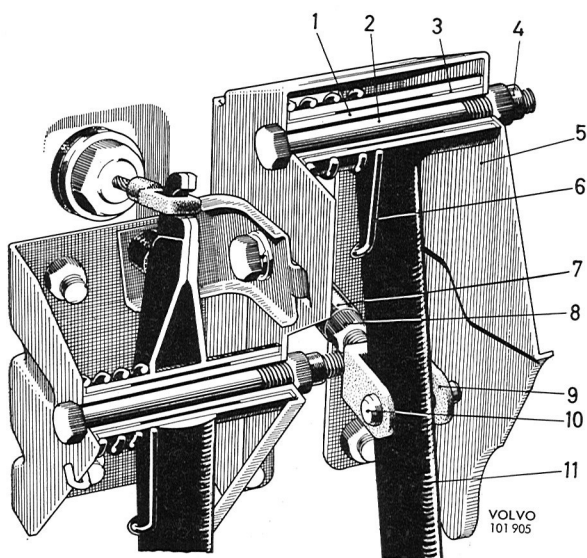

Fig. 5-67. Pedal suspension components
The position of the pedal is adjusted by loosening the locknut (8, Fig. 5-67) and removing the split pin bolt (10) and then turning the fork (9). Do not forget after adjusting to tighten the locknut and fit the split pin.
1. Remove the split pin bolt (10, Fig. 5-67). Prise off the return spring (6). Unscrew the nut (4) and pull out the screw (2). Lift the pedal (11) forwards.
2. Press out the bearing sleeve (1) and the bushes (3).
4. Press the new bushes (3) in position in the pedal and lubricate them with a thin layer of ball bearing grease. Fit the bearing sleeve (1) and the return spring (6).
5. Place the pedal in position and fit the screw (2) and the nut (4). Fit on the return spring. Fit the split pin bolt (10) and the split pin.